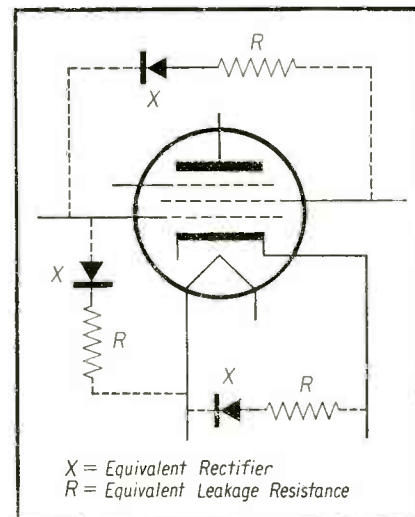

Fig. 5—Tube leakage paths.
A. As shown in Fig. 5, the leakage may be unidirectional, as if a rectifier were in series with the leakage resistance. Accordingly, an a-c leakage-resistance test is preferred. If an ohmmeter is